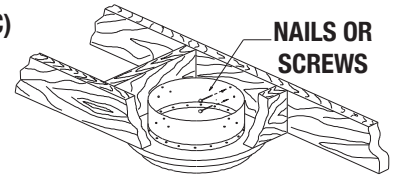

Figure 6
Step 3: From below push the support into the framed opening. Screw finish trim (included) to the ceiling. Attach the support to the framed box using (12) - 3" spiral nails or #8 x 1 1/2" wood screws (see Figure 6).